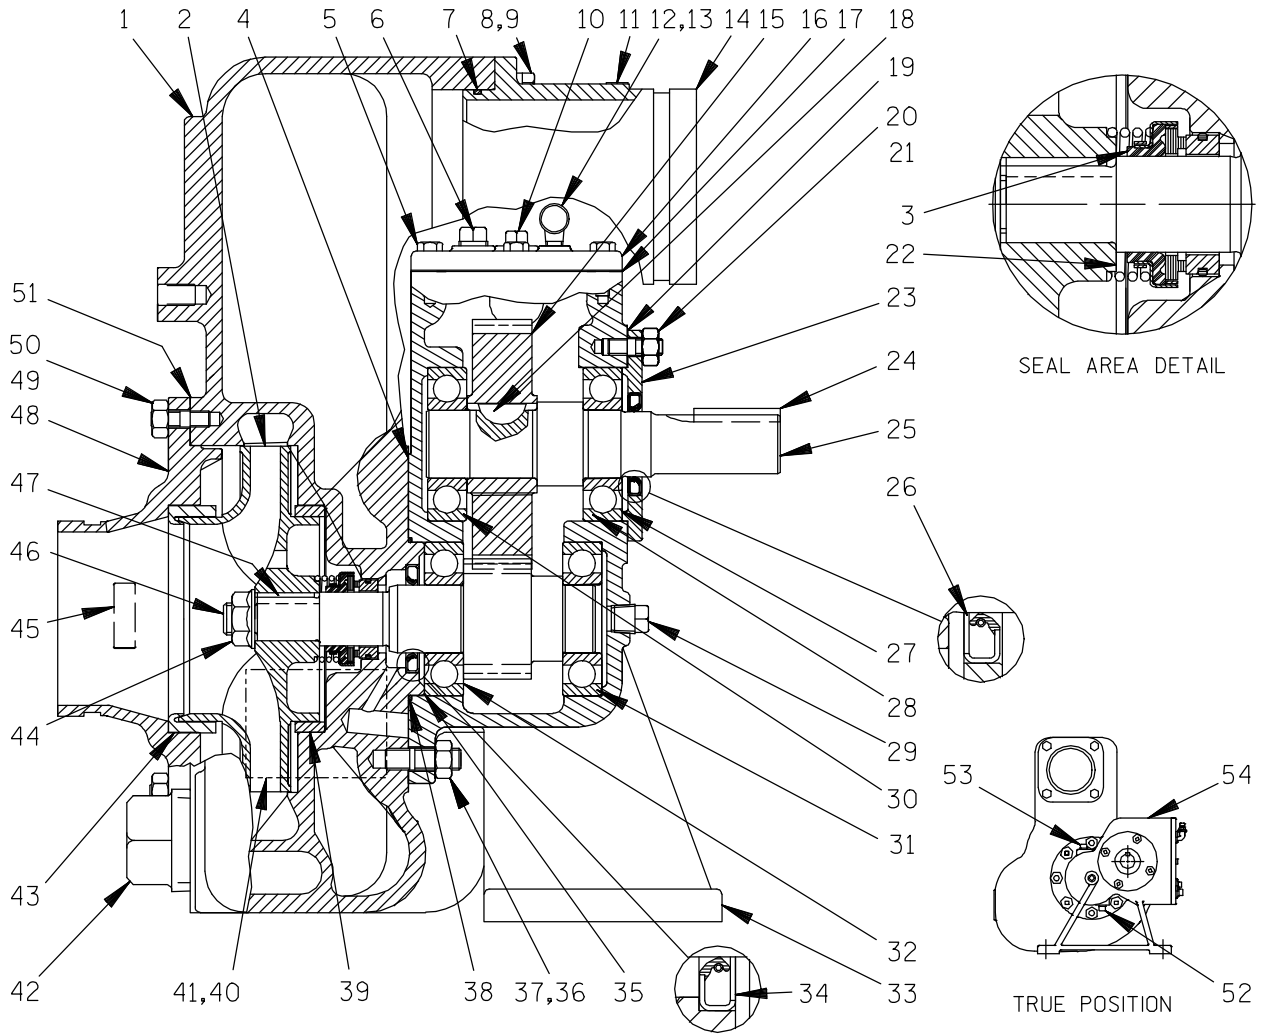

Figure 1. Pump Model 04E1-GA
This pump requires little service due to its rugged, minimum-maintenance design. However, if it becomes necessary to inspect or replace the wearing parts, follow these instructions which are keyed to the sectional view (see Figure 1) and the accompanying parts list.
Position the oil seal (34) in the casing bore with the lip positioned as shown in Figure 1. Press the oil seal into the bore until fully seated against the bore shoulder.
(Figures 1 and 2)